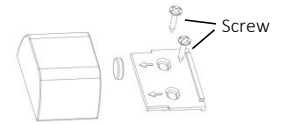

Fig.4
- For Rcontact TF Part 2: Open the cover then use the screws to fixed it on the door. (Fig.4)